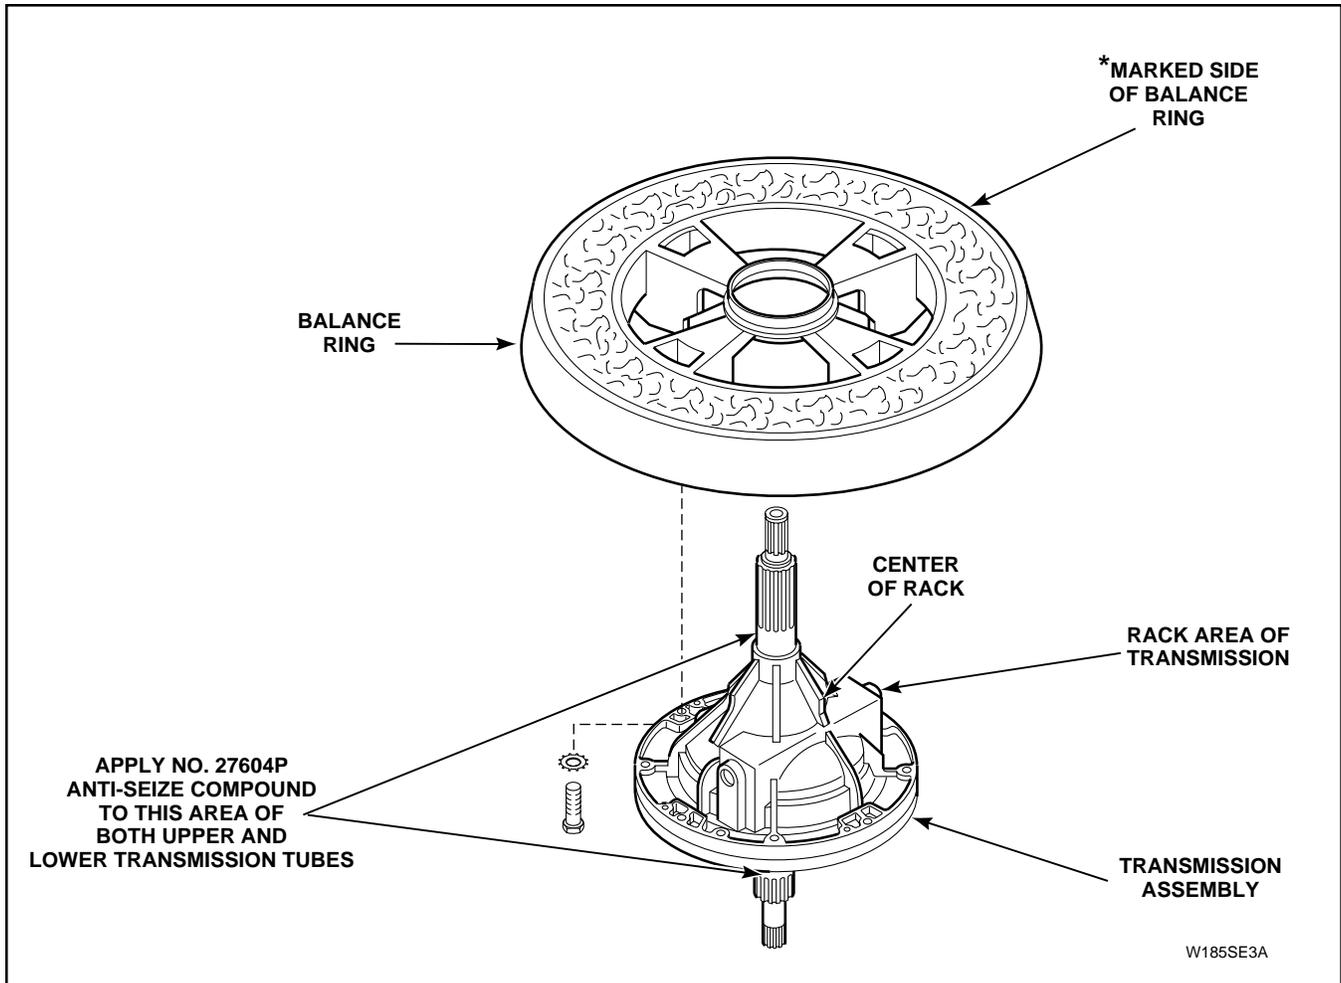

Figure 44
**IMPORTANT:** When installing lower bearing housing, apply No. 27604P Anti-Seize Compound to area of transmission tube that will be contacting bearing, *Figure 44*.
**IMPORTANT:** When installing lower bearing housing, pivot dome and brake assembly, apply No. 27604P Anti-Seize Compound to area of transmission tube that will be contacting bearing, *Figure 44*.
- b. Remove four screws and lockwashers holding transmission assembly to balance ring, *Figure 44*, then lift transmission assembly straight up and out of balance ring and upper bearing.
**IMPORTANT:** When replacing or reinstalling transmission assembly, it is important that No. 27604P Anti-Seize Compound be applied to area of the transmission tubes where they will be contacting upper and lower bearings, *Figure 44*.
**NOTE:** If there is no mark on balance ring before disassembly, mark it and also note the position of rack on transmission assembly, *Figure 44*.
When reinstalling transmission assembly, note, if there is a mark located on outer edge of balance ring, this mark (if present) indicates the light side of ring. This light side must be installed at a 9 o'clock position with center of rack at 12 o'clock when viewed from top of transmission, *Figure 44*. Carefully lower transmission through balance ring and upper bearing. **DO NOT DROP OR LOWER TRANSMISSION ASSEMBLY INTO POSITION TOO HARD**, this can cause bearing to move within bearing housing which will cause vibration, noise, wear or no spin.
\* NOTE: If there is no mark on balance ring before disassembly, mark it and also note the position of rack on transmission assembly, Figure 44.
q. Apply anti-seize compound, No. 27604P, to smooth area of both transmission tubes that will be contacting upper and lower bearings, *Figure 44*.
**IMPORTANT:** When reinstalling balance ring, note, if there is a mark located on outer edge of balance ring, this mark (if present) indicates light side of ring. This light side must be installed at a 9 o'clock position with center of rack at 12 o'clock when viewed from top of transmission, *Figure 44*.